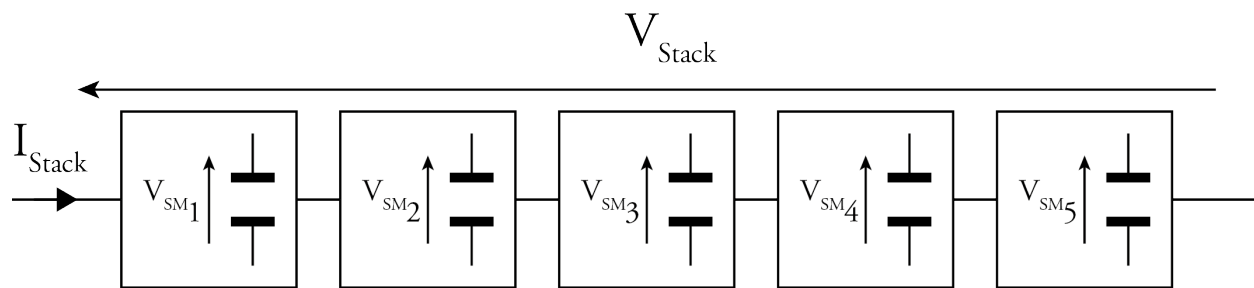

Figure 3 – Stack of submodules with pre-charged capacitors
In all the following questions, use the symbols, current and voltage directions as presented in Figure 3.
f) Using the representation of a 5-submodule stack in Figure 3 where each submodule is of a full-bridge type, the measured level of charge of the submodule capacitors is: